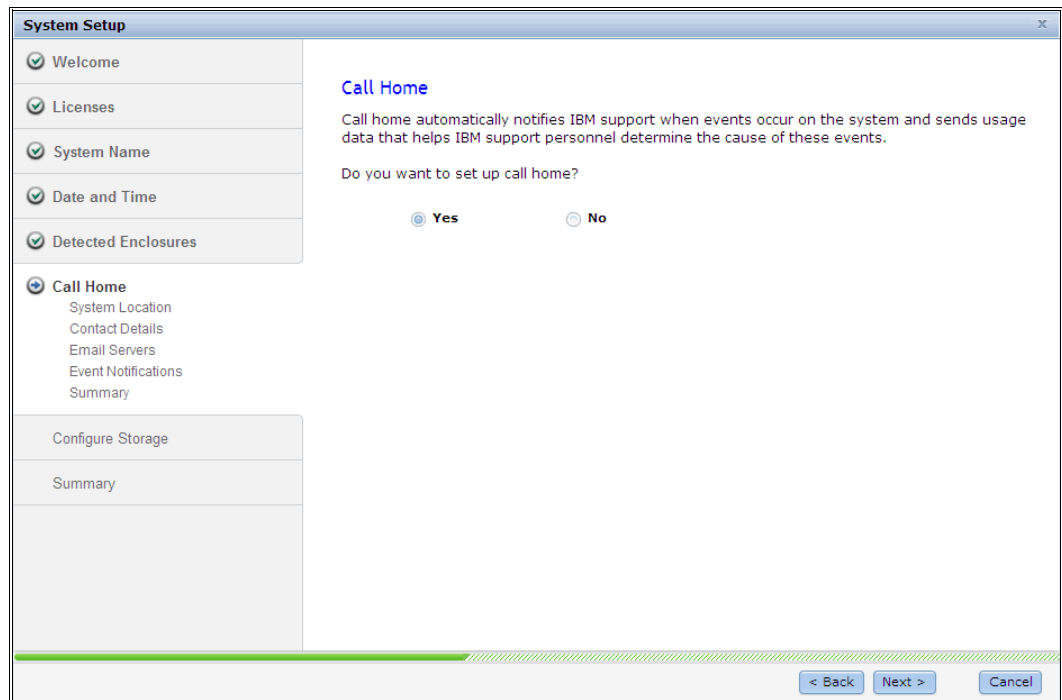

Figure 2-23 Call Home setup
5. The next window in the configuration process is setting up Call Home, as shown in Figure 2-23.